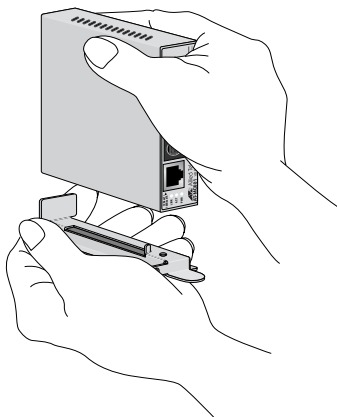

Figure 13 Rack Mount - Set on Slider
1. Attach the unit to one of the sliders that will hold the unit in the chassis, as shown in Figure 13.